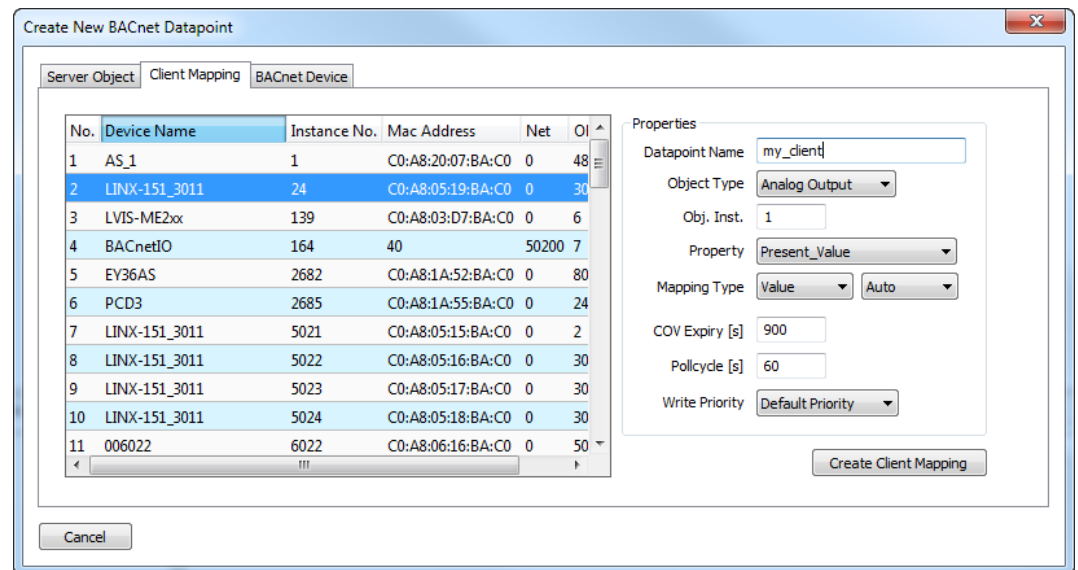

Figure 168: Create Client Mapping Dialog.
2. Right-click in the data point list and select **New Datapoint...** in the context menu. This opens the **Create New BACnet Point** dialog as shown in Figure 168.